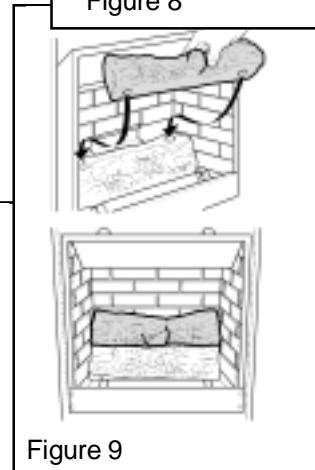

Figure 9
2. Place the rear log over the base log. Locate the holes in the top log into the pegs in the base log. See figure 9.